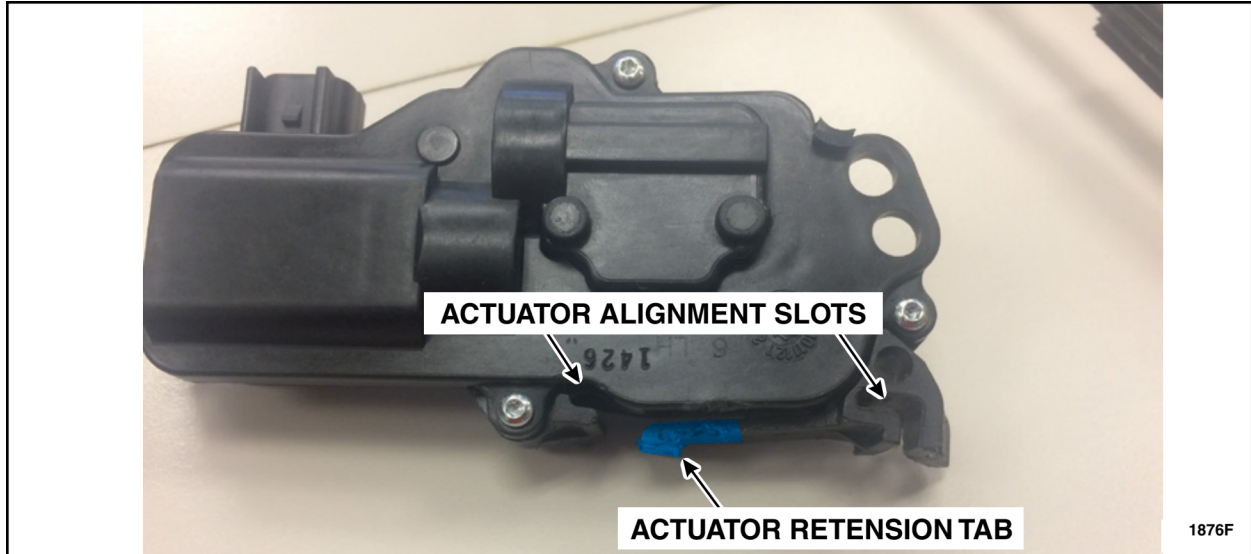

FIGURE 41
15. Remove the door lock actuator by using a flat blade screwdriver. Release the retention tab, on the actuator, from the notch on the door latch while wiggling the actuator off of the door latch alignment brackets. See Figures 41 and 42.
17. Install a *new* door lock actuator by aligning the actuator alignment slots with the door latch alignment brackets. Slide the actuator onto the brackets while aligning the actuator arm pin into the door latch lock lever. An audible click can be heard as the door lock actuator retention tab seats behind the door latch retention tab notch. See Figures 41, 43 and 44.